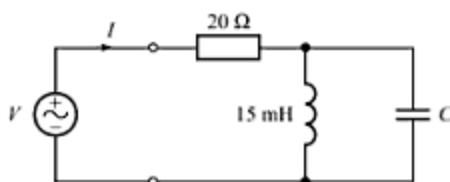

Fig. 10.17
25. For the circuit shown in Fig. 10.17, calculate the value of C such that the input current is 45° out of phase with the input voltage at frequency $\omega = 2000$ rad/s. [Ans. $41.66 \mu\text{F}$]